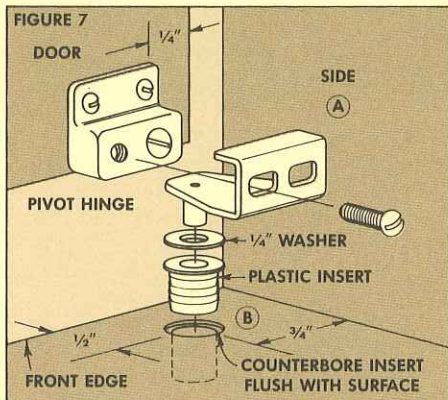

FIGURE 8
DRAWER BOTTOM AND BACK. After the lap dovetails are cut, go ahead and cut the groove for the drawer bottom so it's centered on the bottom socket of the drawer front, see Fig. 6. Then cut the drawer back (H) to size (see Fig. 8) and join it to the sides with a rabbeted tongue/dado joint.
THE GROOVES. Finally, a groove must be cut in the drawer sides to accept the drawer guides. This groove is $\frac{3}{4}$ " wide, $\frac{3}{8}$ " deep and is positioned on the drawer sides so that it's centered 3" from the bottom edge, see Fig. 8. The easiest way to cut this groove is on the router table, using a stop block to stop the groove just short of the dovetail pins, see Fig. 6.